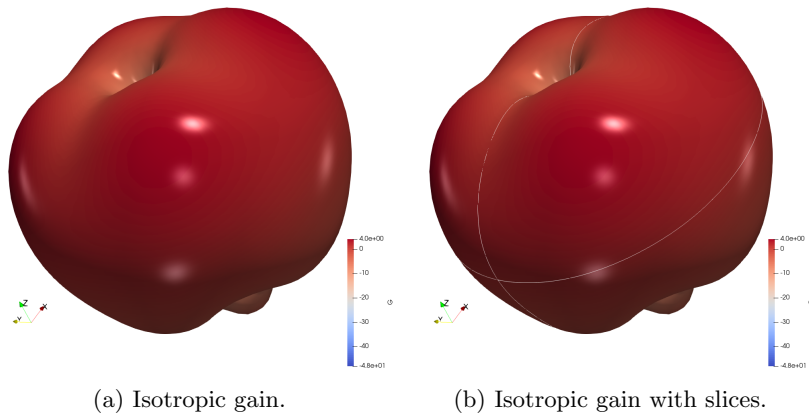

Figure 23: Isotropic gain at 4.7 GHz.
- View the computed far fields with ParaView using the files saved in the directory `ParaView_monopole_antenna_FarField`. Open the file `G_4.7e+09.SP1`, change **Solid Color** to **G**, set **Normal Array** to **normals**, and set **Specular** to 1. The 3D far-field gain is shown in Fig. 23(a), where the influence of the finite ground plane can be seen on the field.
- Open the files `slice_G_4.7e+09_xz_0_0.SP1` and `slice_G_4.7e+09_xz_0_0.SP1` to show slices cut through the 3D pattern as shown in Fig. 23(b). View all together to ensure that the slices are as expected, and de-select various plots to explore the slices in isolation.